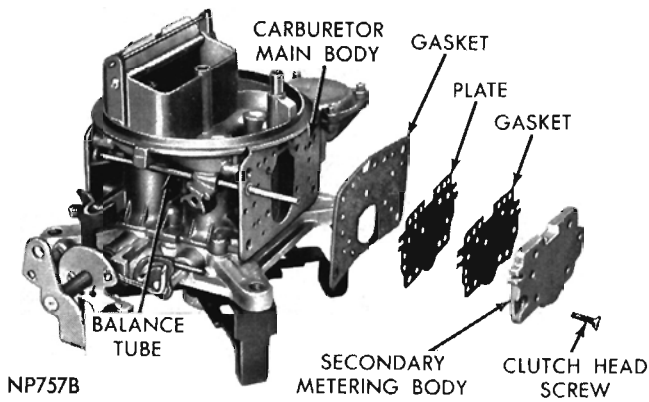

Fig. 4—Secondary Metering Body, Plate and Gaskets
(2) Holding assembly together, invert assembly and install attaching screws. Tighten securely.
(3) Install balance tube into main body and install new "O" rings and washers at each end. Be sure "O" rings are seated in recesses, followed by washers.
(4) Install a new secondary metering body to main body gasket (Fig. 4) followed by metering body plate, plate gasket and body. Install clutch head screws and tighten securely. (Be sure the main metering restriction ports are at the bottom).